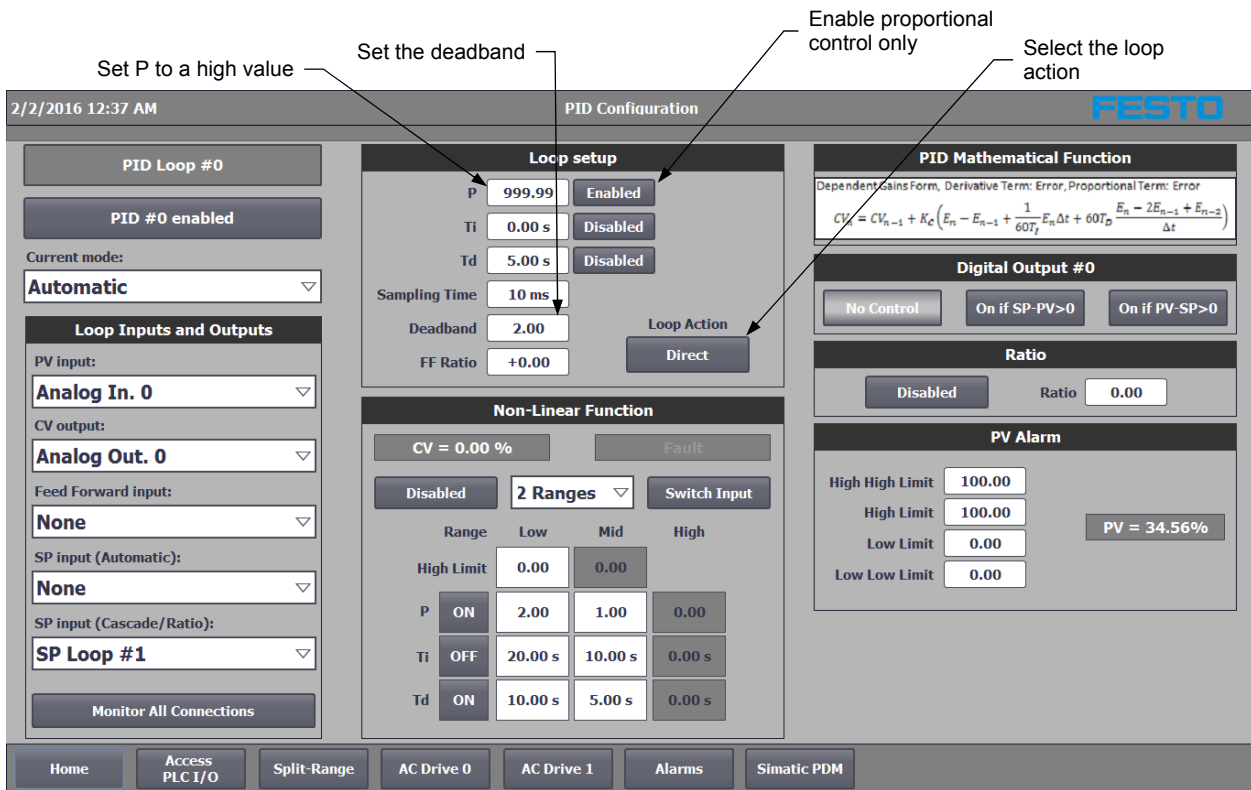

Figure 27. On-off control configuration.
4. Set the PID Configuration for on-off control as shown in Figure 27.